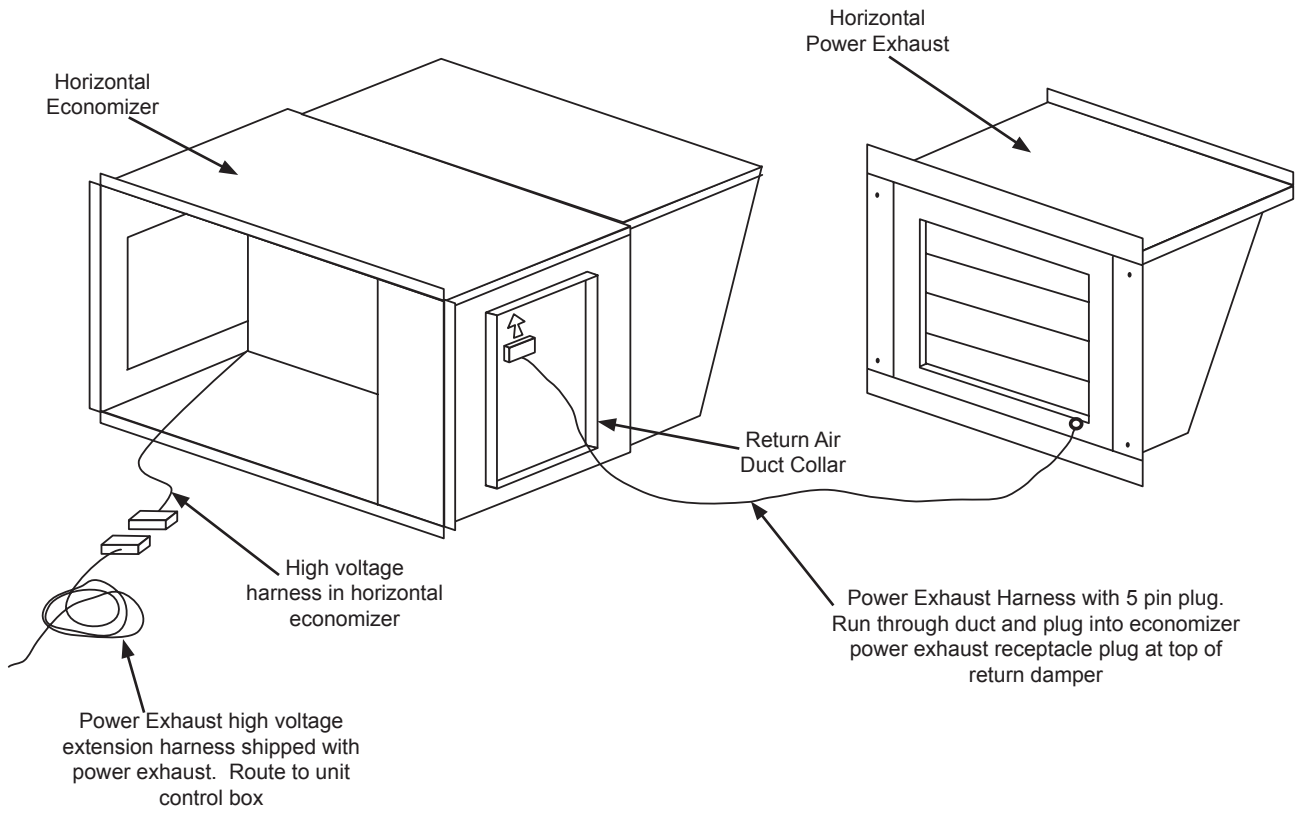

Figure 4
6. Route the power exhaust harness with 5 pin plug (P18) through the return duct and connect to economizer's power exhaust 5 pin plug (J18), which is at the top of the return damper. The power exhaust plug (J18), contains 2 wires for low voltage connection to the economizer controller for power exhaust activation, and 2 or 3 (depending on voltage) high voltage wires. (See Fig. 4.)
7. Gasket the backside of the power exhaust mating flanges. Set power exhaust over the 20" x 20" opening in return duct. Using (4) #10-16 x 5/8" screws, secure the power exhaust to duct through side flanges.
9. Connect the 3 pin voltage harness shipped with the power exhaust (P24), to the 3 pin high voltage plug in the horizontal economizer (J24). (See Fig. 4.)